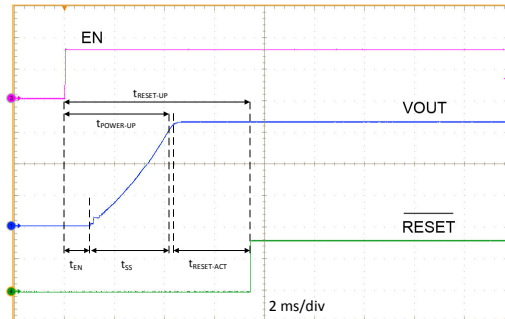

図 8-4. Typical Start-Up Waveform
- A delay has been added between the point at which the output voltage is within specified limits and the flag asserts Power Good. A glitch filter prevents false flag operation for short excursions in the output voltage, such as during line and load transients. See Figure 8-3 and Figure 8-4 for more detail.
A typical start-up waveform is shown in 図 8-4 along with timing definitions. This waveform indicates the sequence and timing between the enable input, output voltage, and $\overline{\text{RESET}}$. From the figure, the user can define several different start-up times depending on what is relevant to the application. 表 8-1 lists the timing definitions and typical values.